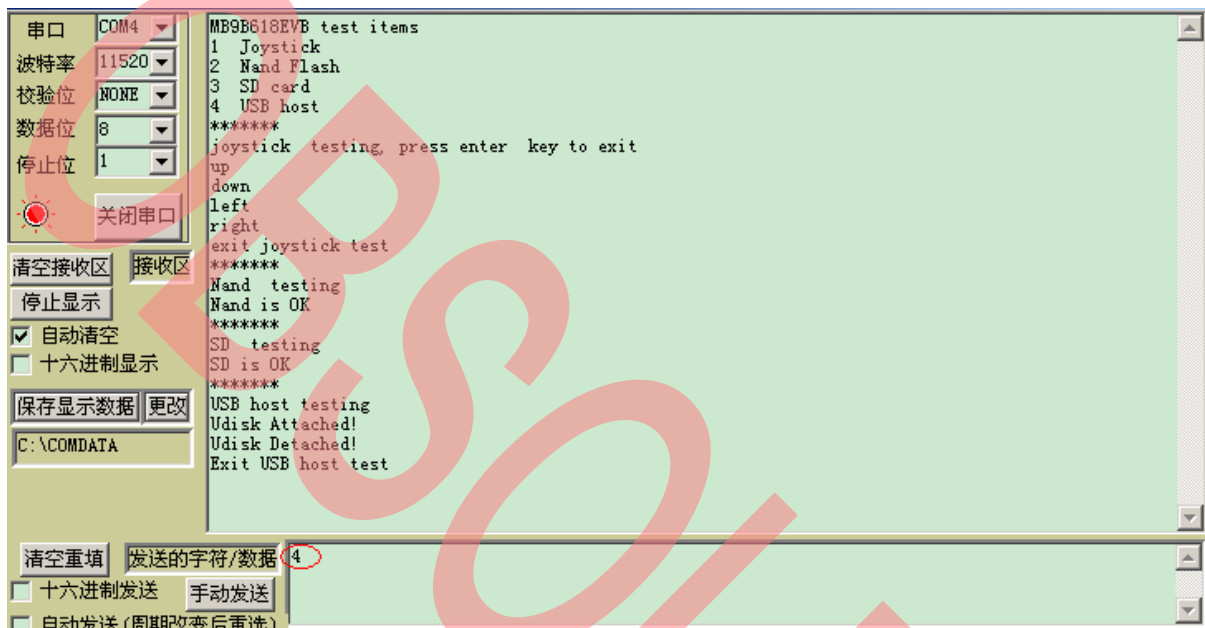

Figure 2-3: testing screen
- The message of “ **joystick testing, press enter key to exit** ” will be shown in the tool as figure 2-3